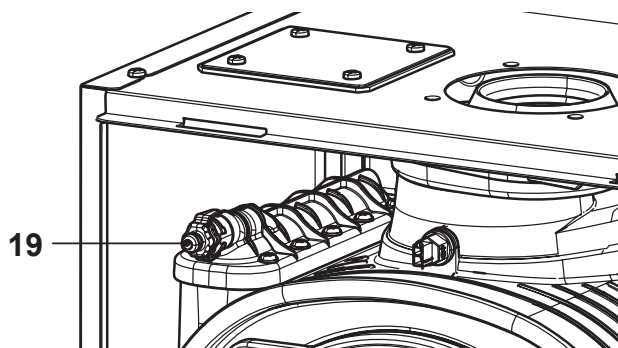

Fig. 7.3
- Before slackening the main condensing breather pipe exchanger 19 in Fig. 7.3 connect a small draining pipe to the hose nozzle to drain water out.